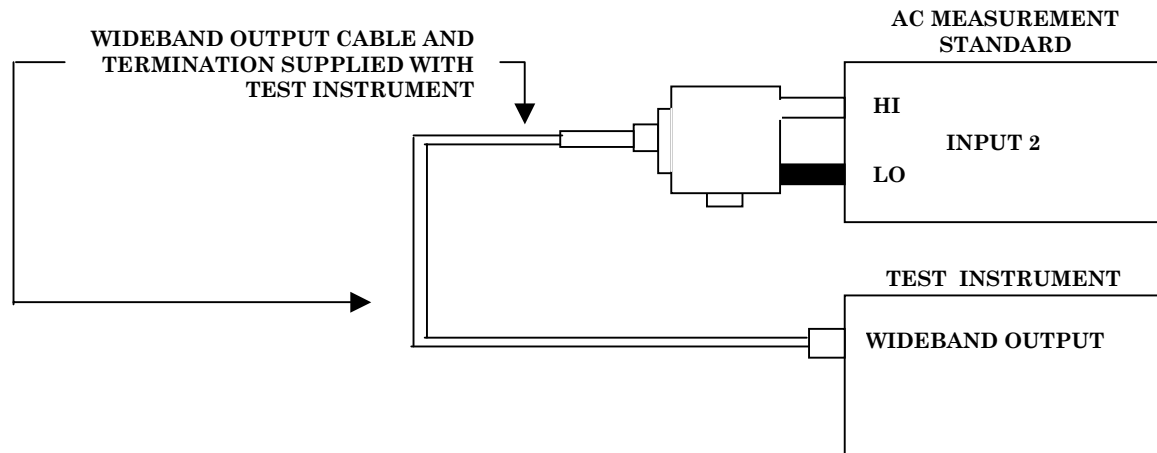

Figure 12. 1 kHz output level.
- (1) Connect equipment as shown in figure 12.